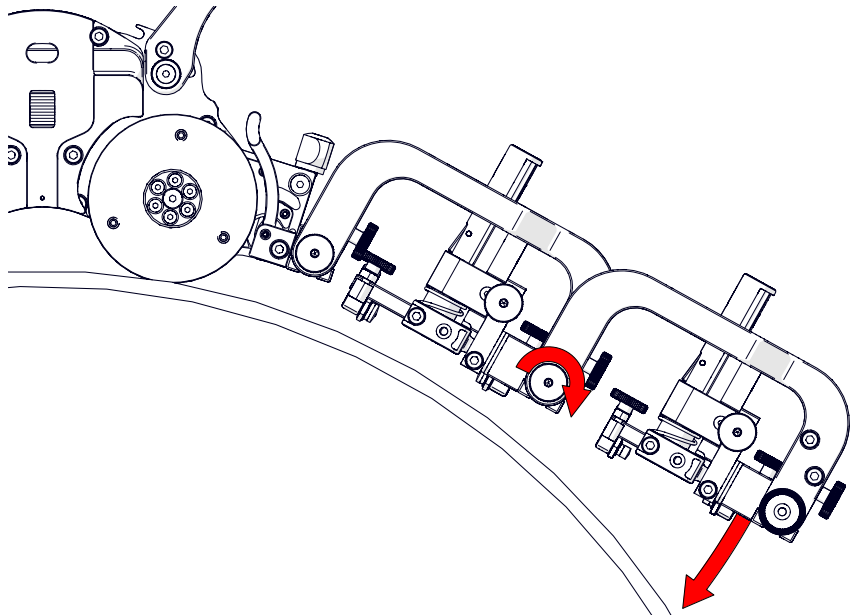
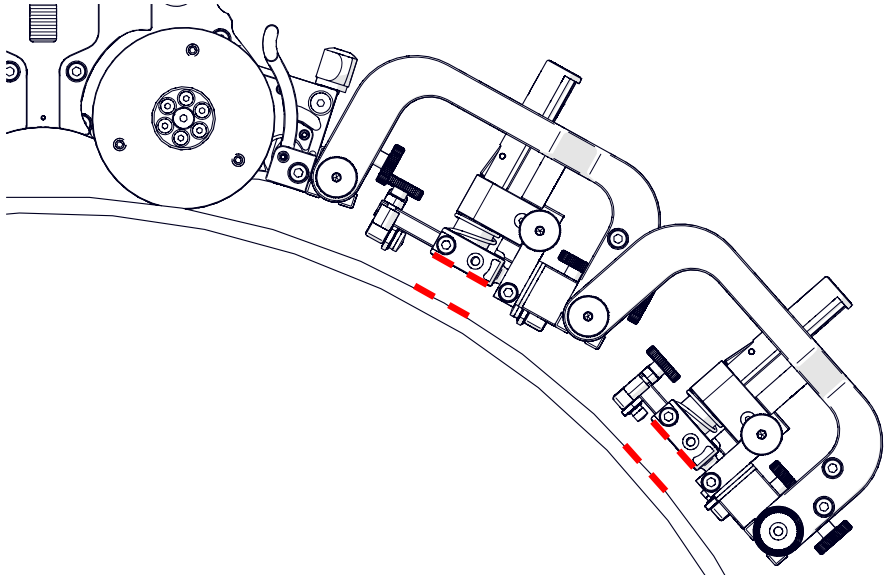

Fig. 184 - Set front rotational adjustment knob
Fig. 185 - Align probes with the scan surface tangent
6. Loosen the front rotational adjustment knob (Fig. 184) to align the TOFD probe holders parallel with the scan surface (Fig. 185).